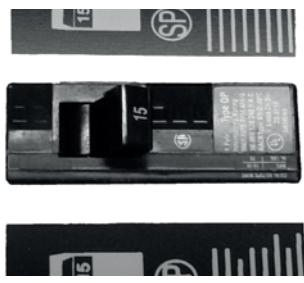

Figure 1
1. Place the circuit breaker to the “off” position (see **Figure 1**).